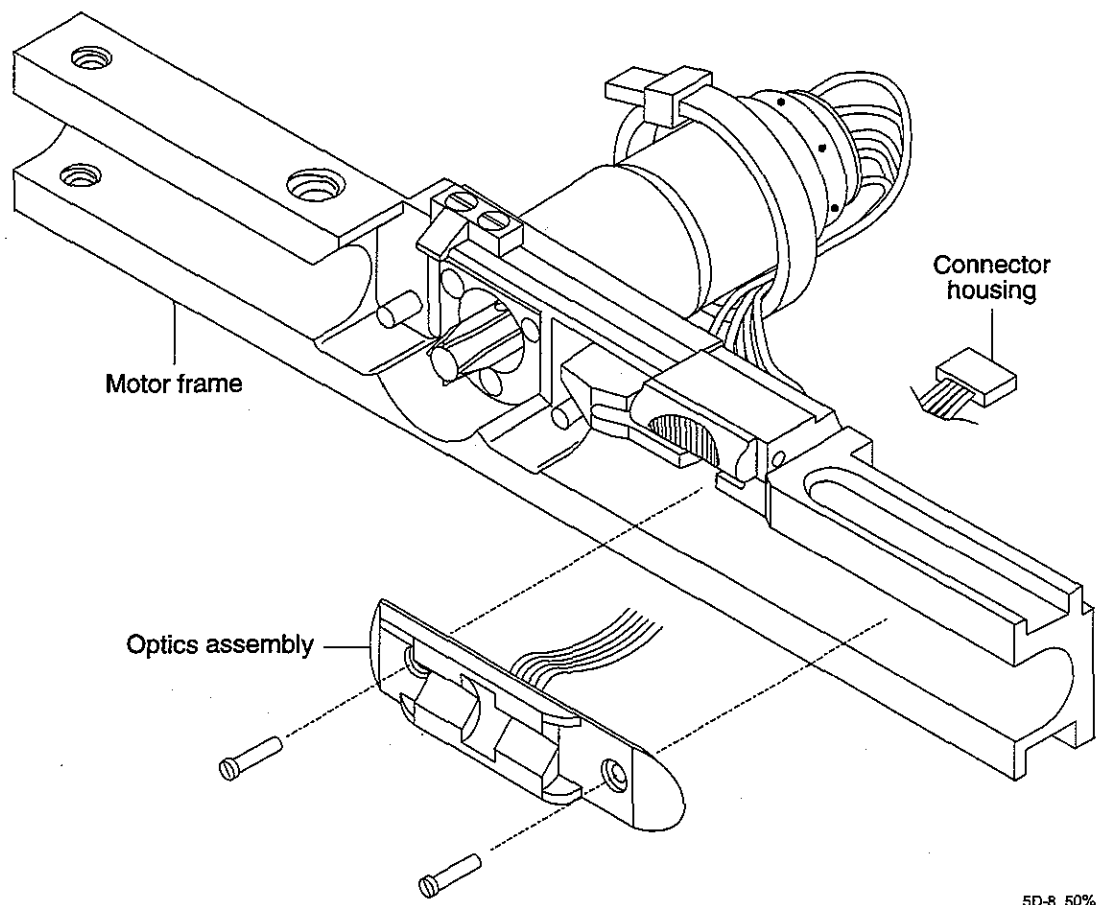

Figure 7-7. Optics Assembly to Motor Frame
3. Place the new optics assembly on the motor frame by guiding the wires through the large hole in the motor frame and seating the optics carrier on the frame (refer to *Figure 7-7. Optics Assembly to Motor Frame*).